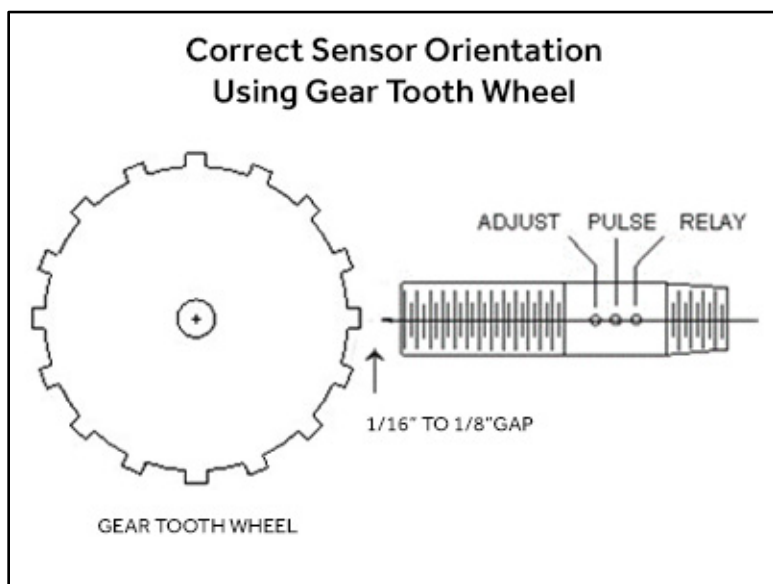

Figure 5. Radial Zero Speed Switch Sensor orientation using a gear tooth wheel. Same orientation for bolt head, key stock, or other ferrous target.
2. Orient the Zero Speed Switch Sensor for proper alignment for ferrous sensing targets. See Figure 5 on page 6.